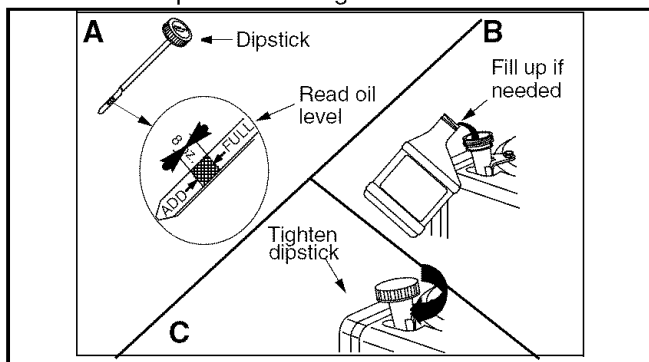

Figure 7
2. With engine on level ground, oil must be to FULL mark on dipstick. See Figure 7 .